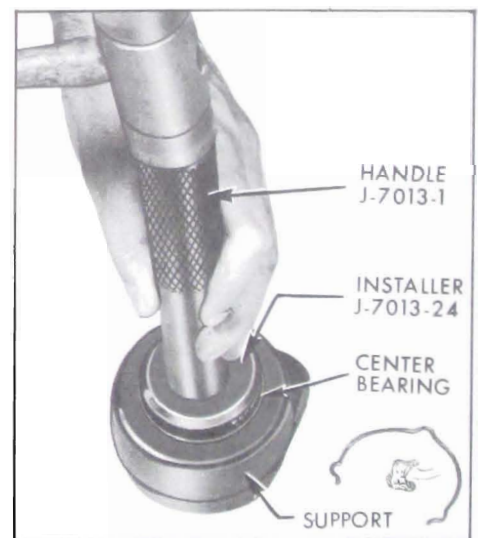

Figure 6-109—Installing Center Bearing into Support
1. On 49000 Series, install new bearing into center bearing support with the aid of Installer J-7013-24 and Handle J-7013-1 (Flight Pitch Tools). See Figure 6-109.